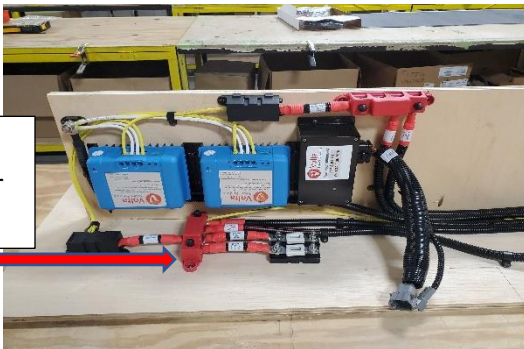

Figure: 5
1. Remove transparent fuse holder covers, Qty. (3) as shown in Figure 5. Figure 6 shows the cover removed.